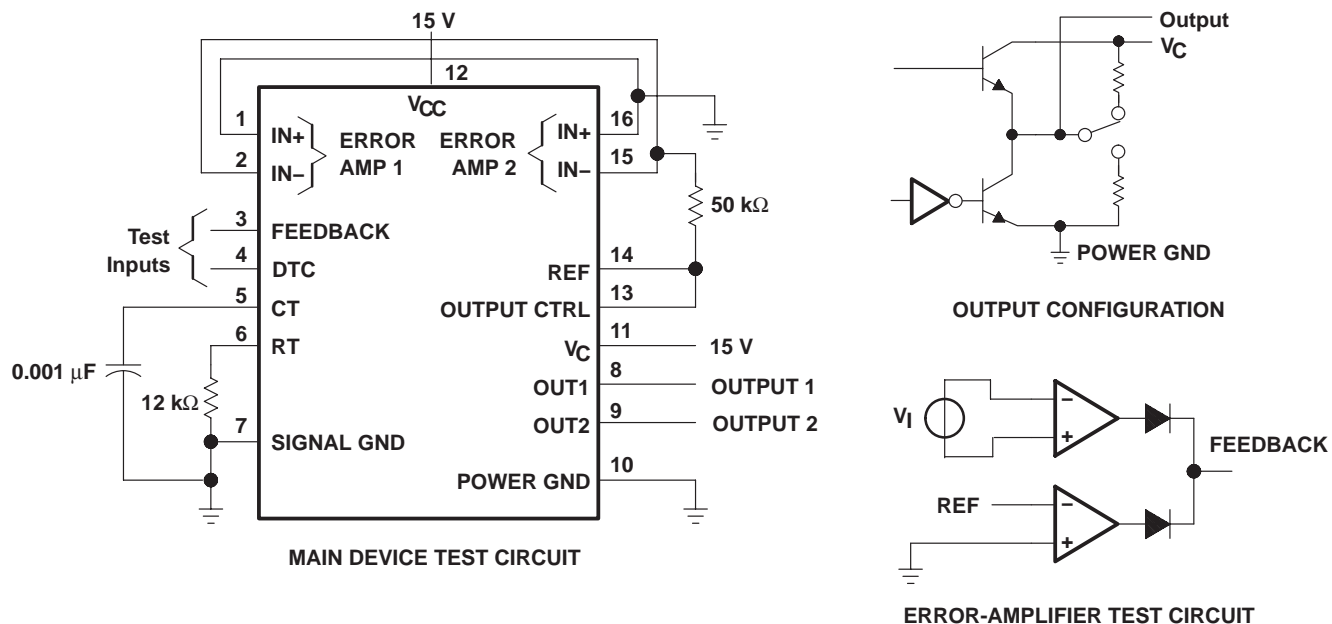

Figure 1. Test Circuits
**oscillator section, CT = 0.001 μF, RT = 12 kΩ (see Figure 1) (see Note 4)**
**dead-time control section (see Figure 1) (see Note 4)**
**total device (see Figure 1) (see Note 4)**